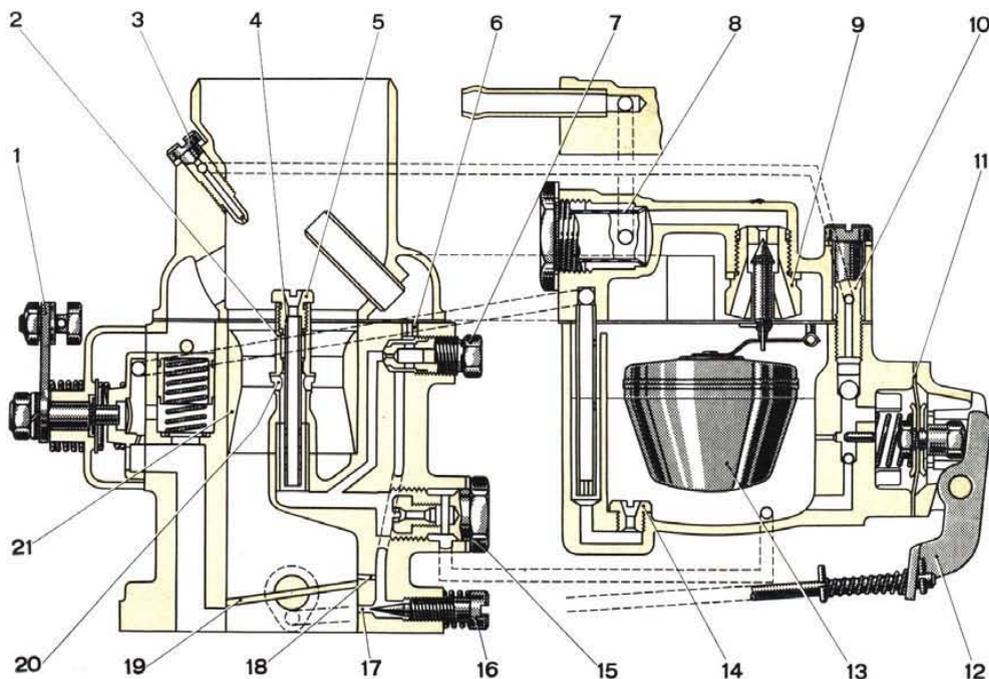

Fig. 147 - Diagrammatic section view of Solex « 30 PIB 4 » carburetor.
During normal running of engine mixture feed is obtained through the main jet (15, fig. 147) and Venturi (21).
At idle, with a closed throttle, the diaphragm (11, fig. 147) is caused to pulsate under spring action, filling up the pump cavity.